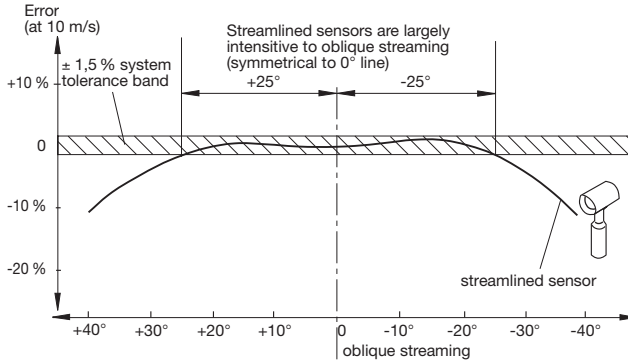

fig. 15
- The sensor must be aligned in the range where it is intensive to oblique streaming (fig. 15). It is correctly positioned when the wrench flats (S) are aligned parallel with the pipeline (in direction of flow).